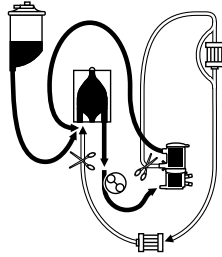

Figure 8.
1. After placing tubing into a properly occluded pump raceway, remove clamp from recirculation outlet per Figure 8 to allow recirculation between the oxygenator and venous reservoir.